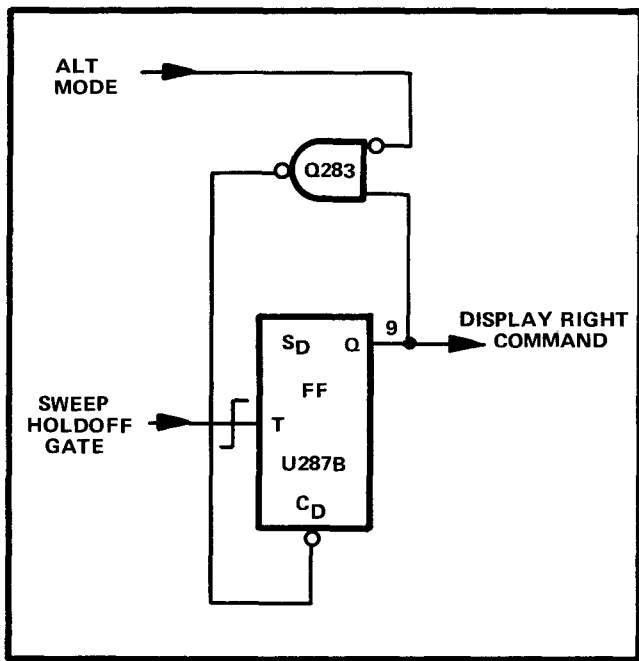

Fig. 3-9. Logic Diagram of Vertical Binary stage.
**Vertical Binary.** The Vertical Binary stage consists of integrated circuit U287B and transistor Q283. U287B is a D flip-flop with direct-set and direct-clear inputs (see Table 3-1 for operating details). The connection between the "O" output and the data (D) input enables this flip-flop to operate in the triggered mode. A logic diagram of the Vertical Binary stage is shown in Fig. 3-9.